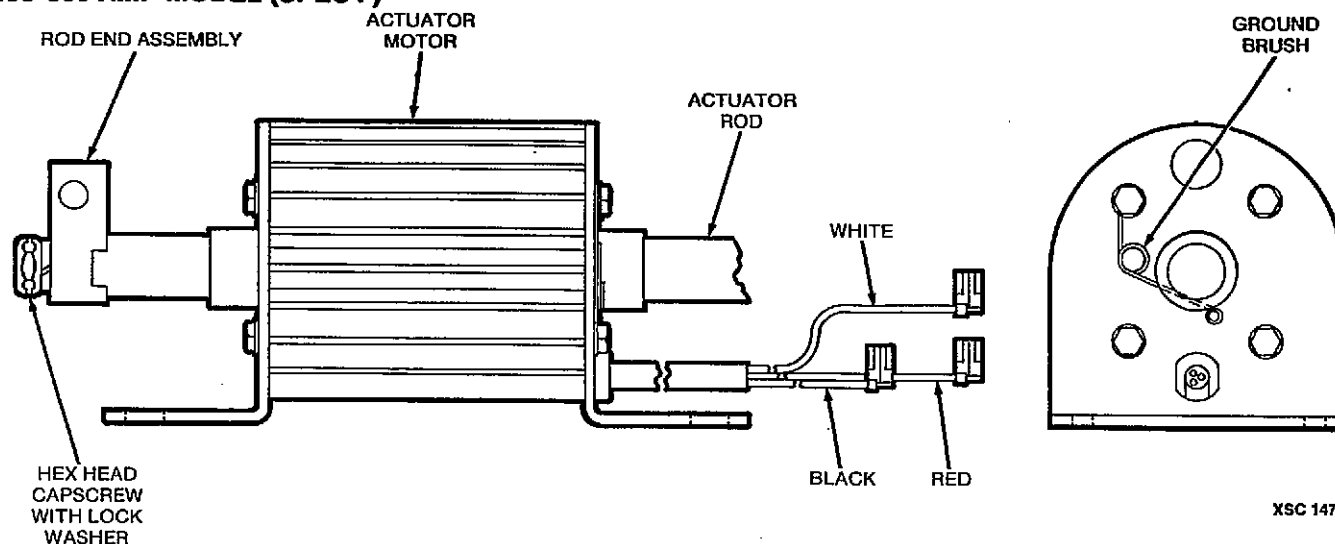

FIGURE 38. LINEAR ACTUATOR
10. Remove rod end assembly (Figure 38) and slide actuator rod out of the actuator motor.
1. Insert the actuator rod into the replacement actuator motor (see Figure 38). Hold the actuator ground brush up slightly to allow passage of the actuator rod. Install the rod end assembly and tighten cap screw 10 to 12 ft. lb. (13.6 to 16.3 N•m).
3. Secure the actuator motor to the switch assemblies using hex head capscrews (4), lock washers (4), flat washers (4), and spacers (4). Tighten capscrews 70 to 75 in. lb. (7.9 to 8.5 N•m).